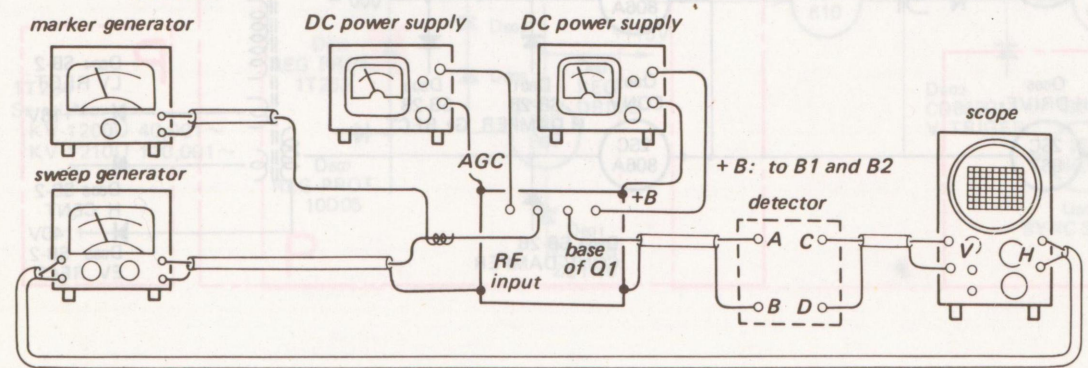

Fig. 5-17. Equipment setup
- 1. Connect a sweep generator and a marker generator to rf input terminal as shown in Fig. 5-17.
- 2. Connect a scope to the base of rf transistor Q1 through a detector as shown in Fig. 5-17.